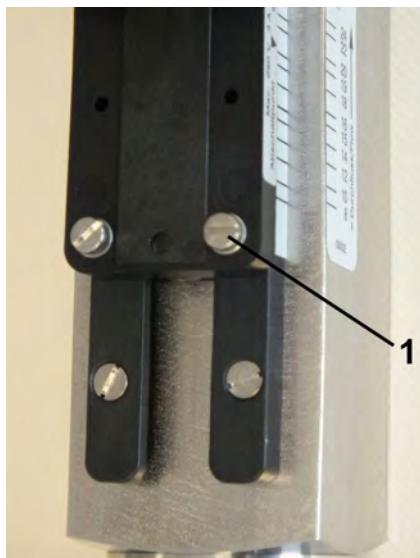

Fig. 33: Loosen set screws
1. ➤ Loosen the set screws of the switch contact (Fig. 33/1) using a flat-bladed screwdriver.
3. ➤ Tighten the set screws of the switch contact (Fig. 33/1) using a flat-bladed screwdriver. When doing so, observe the correct tightening torque of the screws.